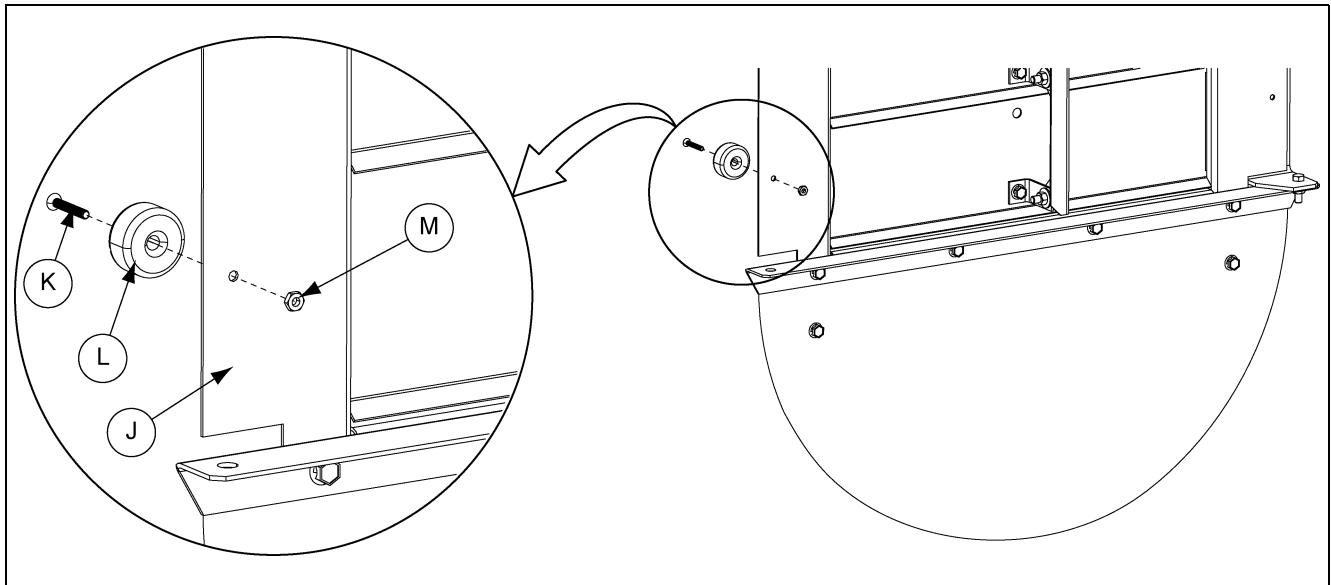

Figure 6
6. Install the magnet (L) to the louver door hinge (J) using the screw (K) and nut (M). (See Figure 6.)